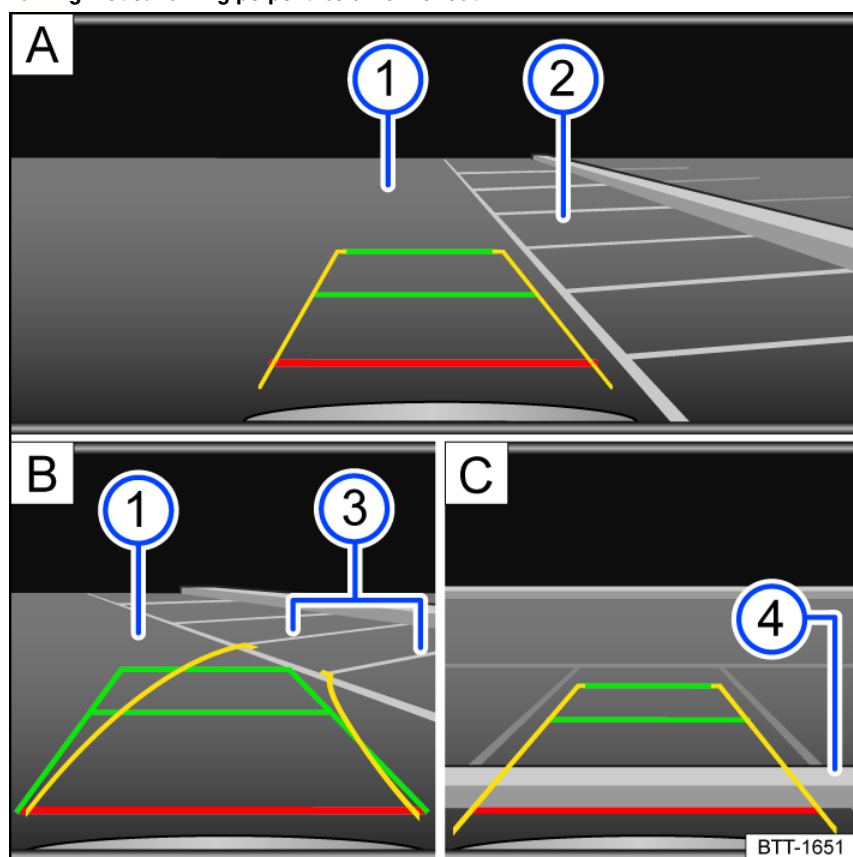

Fig. 140 Infotainment system: Parking perpendicular to the road.
- ① Road surface.
- ② Parking space.
- ③ Side boundary of the parking space.
- ④ Rear boundary of the parking space.
3. Position your vehicle in front of the parking space *fig. 140* **A** ②.
4. Steer so that the yellow lines lead into the parking space. The green and yellow lines must align with the side boundary lines *fig. 140* **B** ③.
5. Stop when the red line reaches the rear boundary *fig. 140* **C** ④.